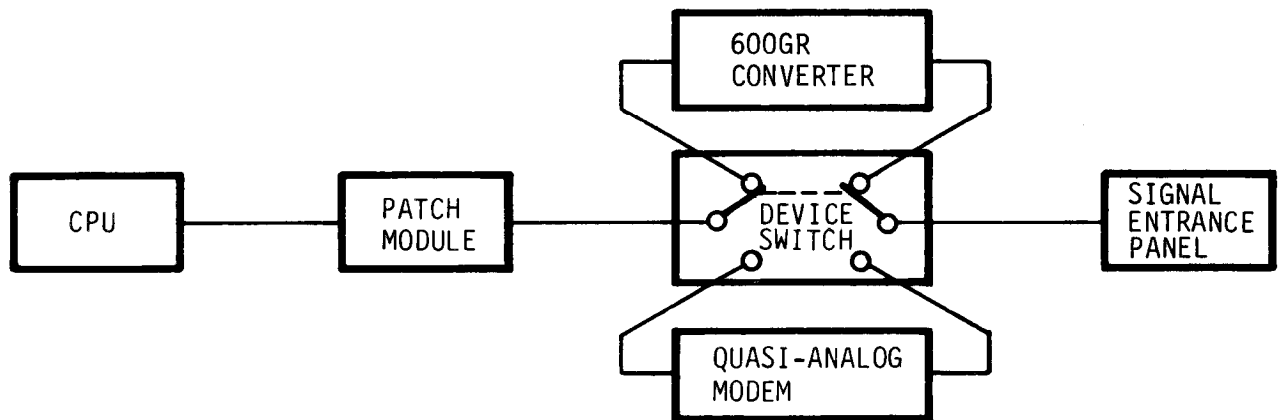

Figure 2-20. Typical Remote Circuit in Cabinet B
(1) The Telecommunication Line Controller (TLC) is an interface module which allows the CPU to communicate with the AUTODIN system. All transmissions between the CPU and AUTODIN must be processed through the TLC. TLC functions include data buffering, validation, flow control, formatting, conversion, and automatic retransmission.
(2) The Crypto Auxiliary Unit (CAU) is an interface module for the cryptographic device with which it is used. The CAU is the communicator for the crypto device. Functions of the CAU include automatic synchronization with external stations; red-to-black isolation and transfer; timing and traffic control. It also provides synchronous to asynchronous conversion.
(3) The isolator assembly is an interface used to eliminate radio frequency propagation of digital signals in order to reduce TEMPEST hazards in ADP application. It effectively eliminates the unauthorized transfer of a signal.
d. Cabinet B Signal Processing Equipment. Cabinet B has the equipment needed for four-wire, full duplex asynchronous communication with the keyboard-displays and printers in the remote subsystem (fig. 2-20). Each of the 12 remote device circuits has a printed circuit board in the quasi-analog modem and a printed circuit board in the 600GR converter. A switch between the two boards allows the operator to select between the two. Manual patch modules allow circuits to be changed from one output channel to another. They are utilized primarily to bypass faults in circuit or equipment.
(1) Cabinet B also includes the common user (dial-up) interface which allows data and voice communications over commercial telephone systems.
(2) Both the 600GR converter and the quasi-analog modem convert incoming signals from the transmission line to the computer and do the opposite for outgoing signals.